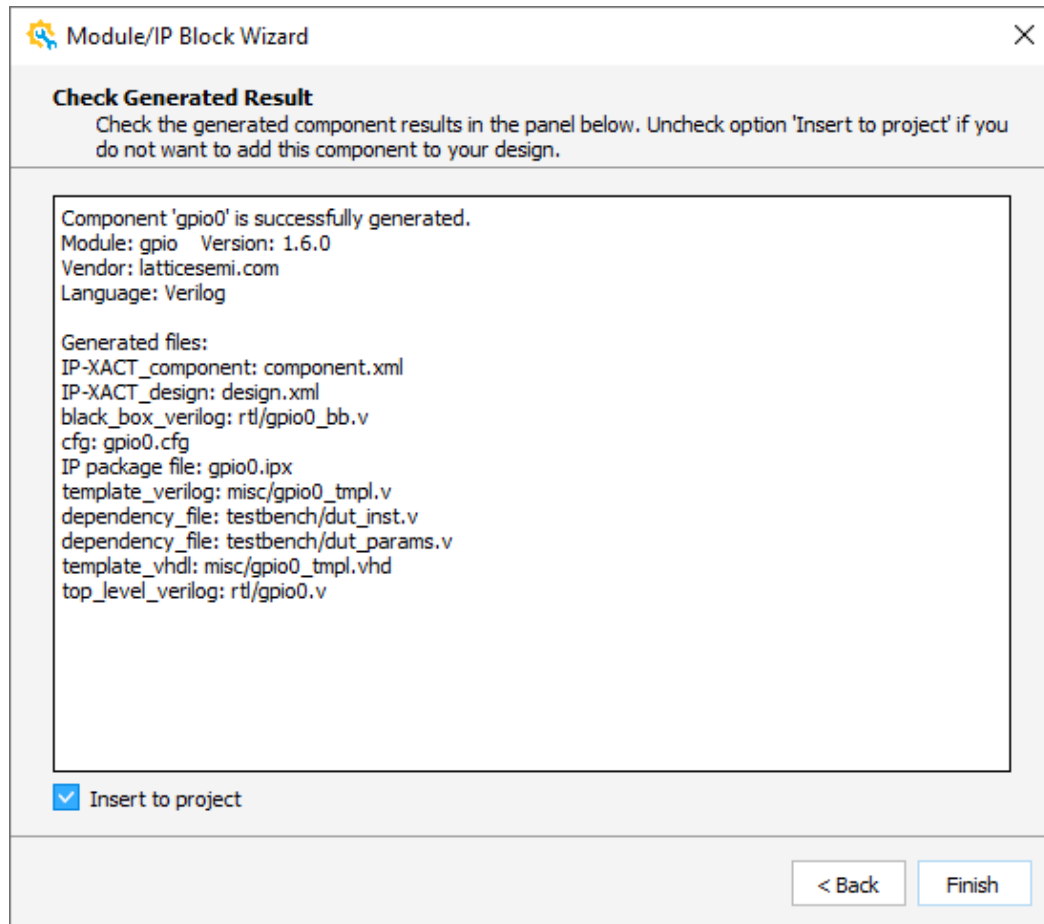
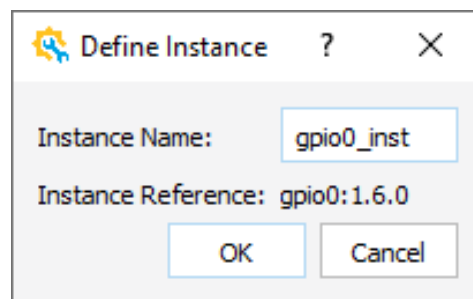

Figure 2.47. Module/IP Block Wizard – Check Generated Result
Figure 2.48. Design Instance Dialog Box
5. Click **Generate**. Module/IP Block wizard shows the Check Generated Result page (Figure 2.47).
6. Select **Insert to project** (Figure 2.47) at the bottom of the Check Generate Result wizard, so that a **Define Instance** dialog box pops up as shown in next step. Or, this dialog box does not appear.
7. After selecting **Insert to project**, click **Finish** (Figure 2.47). The **Define Instance** dialog box opens (Figure 2.48).